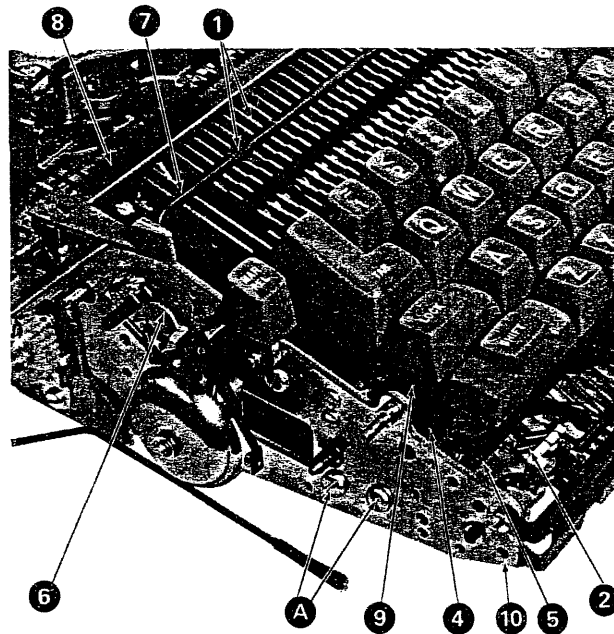
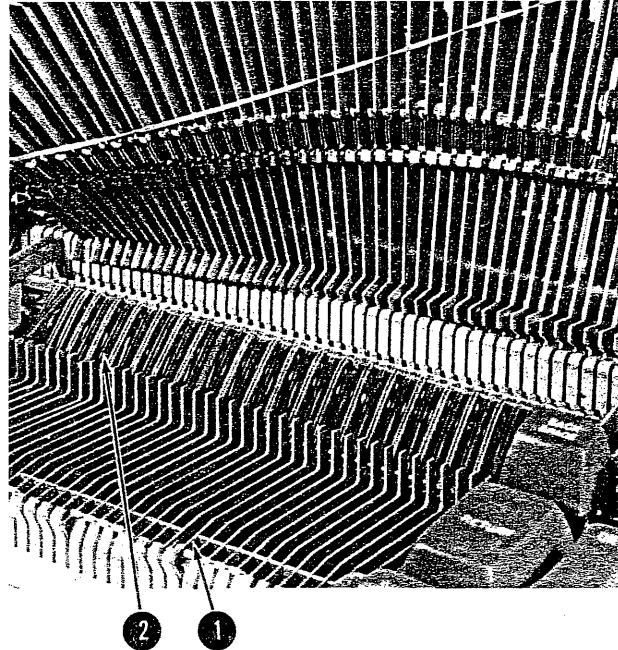

Figure 4-58. Interposer Removal (Steps 1-8 and 11)
Figure 4-59. Interposer Removal (Steps 9 and 10)
1. Align the carrier over the line-lock interposer (No. 1, Figure 4-58).
2. Disconnect the operational keylever springs, carrier-return spring, and backspace spring (No. 2, Figure 4-58).
3. Remove the keylever upstop (No. 4, Figure 4-58).
4. Remove the spacebar equalizing rod (No. 5, Figure 4-58).
5. Remove the bell-bail lever (No. 6, Figure 4-58).
6. Remove the bell-ringer bail (No. 7, Figure 4-58).
7. Remove the margin rack (No. 8, Figure 4-58).
8. Slip sound deadening over operational keybuttons (No. 9, Figure 4-58). Raise the keylevers (Figure 4-59), being careful to raise them evenly on machines that have keylever-pawl leaf springs.
9. Push the fulcrum rod to the interposer being removed with a fulcrum rod tool (No. 1, Figure 4-59).
10. Remove the spring from the interposer being removed (No. 2, Figure 4-58).
11. To remove the line-lock interposer, it is necessary to remove the screws marked "A" on Figure 4-58 and pull the interposer-guide-comb support forward (not shown).